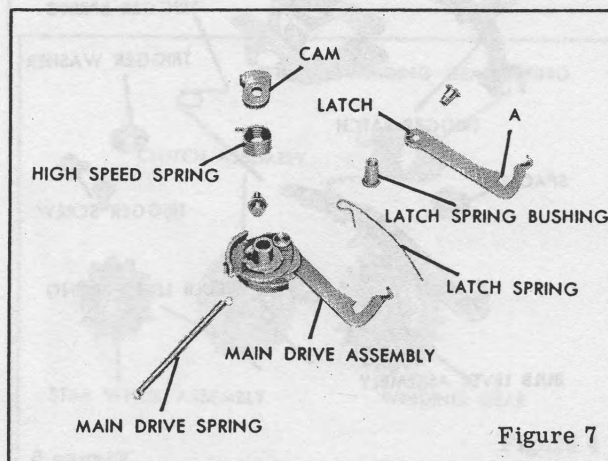
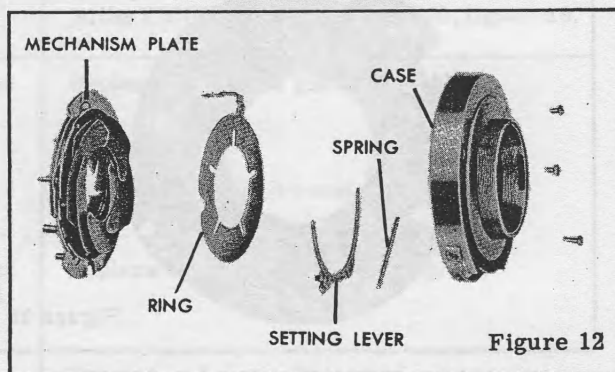
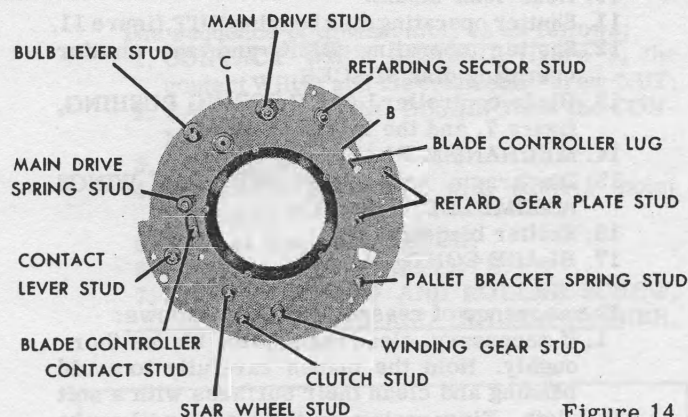
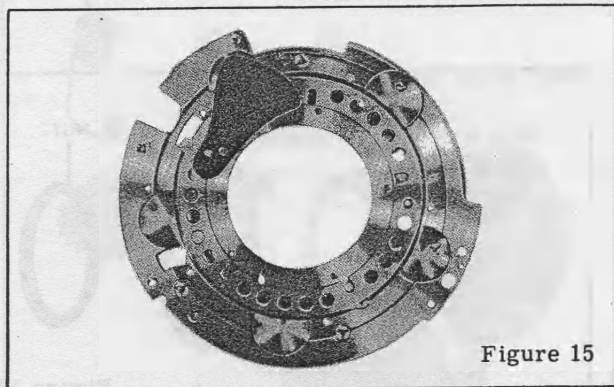

Figure 7
Figure 12
Figure 14
Figure 15
5. Unhook the MAIN DRIVE SPRING, figure 7, from the MAIN DRIVE SPRING STUD, figure 14.
3. Place the long end of the sector spring against the inner side of the blade controller LATCH SPRING BUSHING, figure 7.
5. Unhook the LATCH SPRING, figure 7, from the main drive LATCH.
1. Apply a thin film of grease (Texaco Unitemp-RCX169 Grease) in the slot on the main drive assembly where it engages the stop stud on the SETTING LEVER, figure 12; on the MAIN DRIVE STUD, figure 14; on the LATCH, figure 7, at the point of contact with the LATCH SPRING, and on the latch where it contacts the RETARDING SECTOR STUD, figure 14. This area of the latch should be burnished before applying the lubricant.
8. Release the shutter and at the same time retard its opening action by placing one finger against the shutter **SETTING LEVER**, figure 12. Observe whether the **BLADE CONTROLLER CONTACT STUD**, figure 14, makes slight contact with the contact spring stud before the blades are fully open. If the spring does not touch the stud, bend the end of the spring toward the stud.
8. Cock and release the shutter and at the same time retard its opening action by placing one finger against the shutter SETTING LEVER, figure 12. Observe whether the BLADE CONTROLLER CONTACT STUD, figure 14, makes slight contact with the contact spring when the blades are fully open. If the spring does not touch the stud, bend the end of the spring toward the stud.
13. Blade controller LATCH SPRING BUSHING, figure 7, and the LATCH SPRING.
14. MECHANISM PLATE, figure 12.
3. BLADE WITH DOUBLE BLADE BUSHING and stud, with the hole in the blade over the stud on the mechanism plate near the BLADE CONTROLLER LUG, figure 14. Refer to figure 15 for positioning of the shutter blade,
8. The shutter CASE, figure 12, diaphragm RING, and the SETTING LEVER with stop stud should be thoroughly cleaned. Apply a thin film of grease (Texaco Unitemp-RCX149 Grease) in the recess in the case occupied by the setting lever. Then wipe this area lightly with a clean cloth.